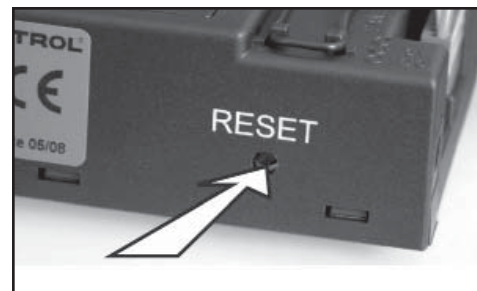

Fig. 2-1 Receiver reset button
- Press and hold the receiver's reset button (Fig. 2-1) until you hear two (2) acoustic signals. After the second, longer acoustic signal, release the reset button.